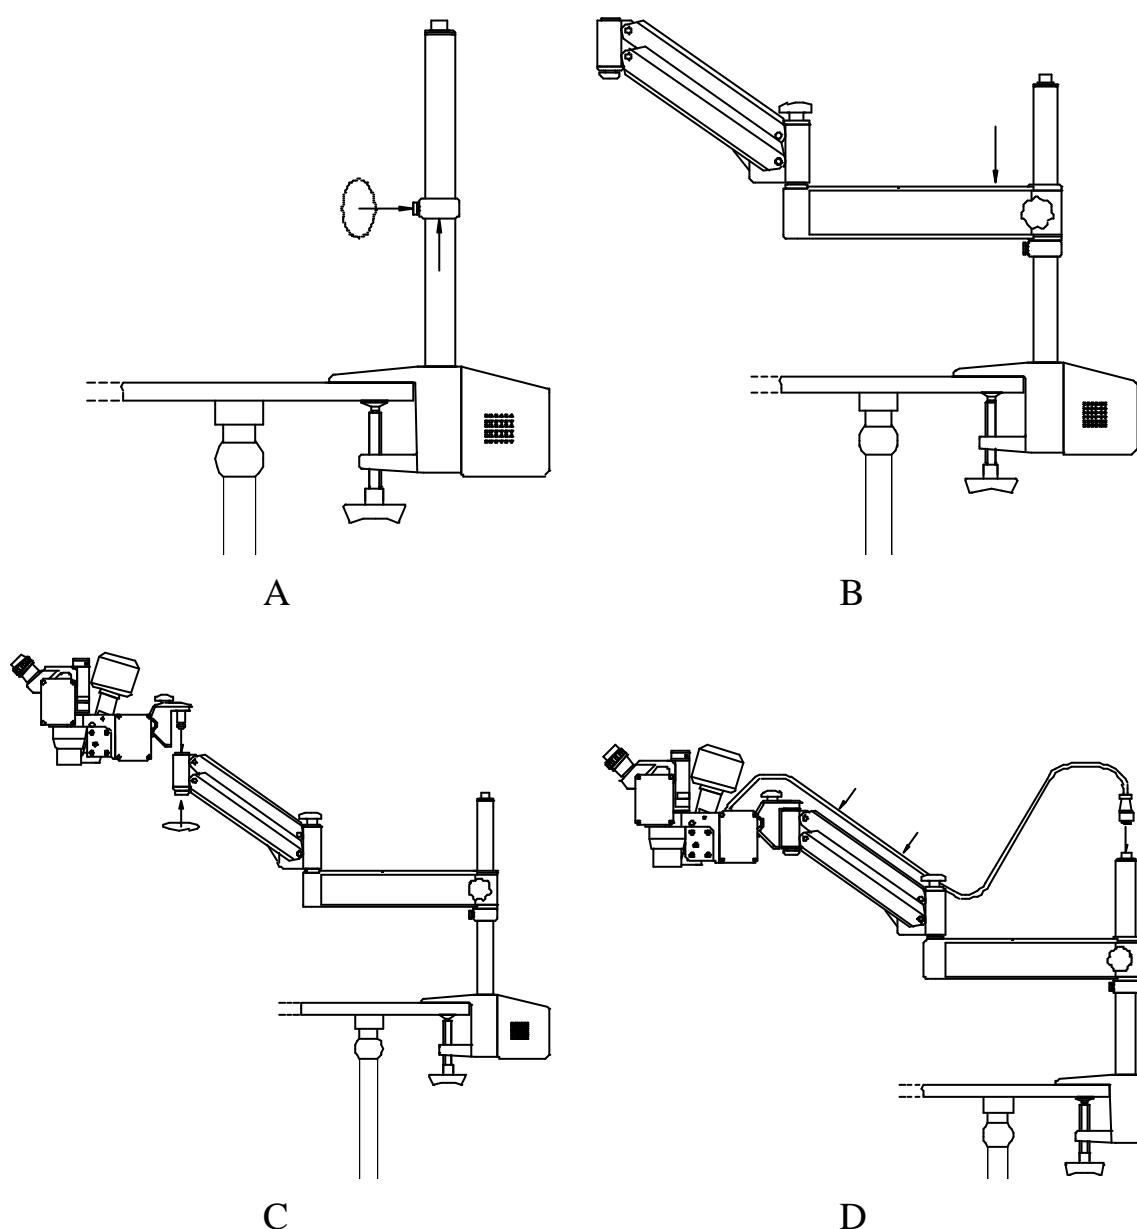

Figure 4 Assembling the microscope
3. Tighten the pillar safety clamp at a point midway up the vertical pillar. Refer to figure 4 (A).
4. Remove the articulated arm assembly from the case, and place it on the vertical pillar. Make sure that the arm assembly rests against the pillar safety clamp. Refer to figure 4 (B).
5. Remove the microscope assembly from the case and locate the microscope assembly in the end of the arm assembly. Tighten the knob underneath the end of the arm to secure the microscope in the collet. Refer to figure 4 (C).